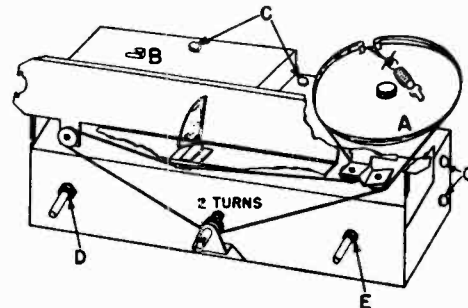

Figure 34. Radio Tuner Showing Chassis Cover and Dial Assembly.
- (4) Unsolder the FM antenna lead from the terminals on the rear of the cabinet. Then, remove the radio tuner chassis.
- f. Position the dial drum as shown in figure 34; unhook spring at "A"; and keeping tension on dial cord, hook it to tab "B".
For alignment of IF slug adjustments, it will be necessary to disassemble the radio chassis from the escutcheon and housing and also remove the chassis cover and dial scale assembly. See figure 34.